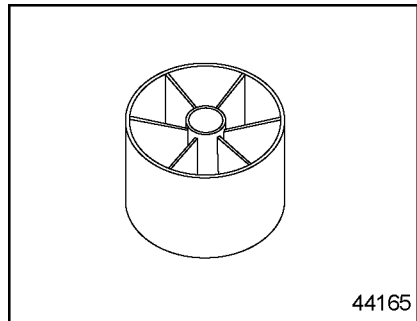

Figure 32 Rotor
2. Lift out the dirty rotor and replace it with a clean one (see Figure 32).